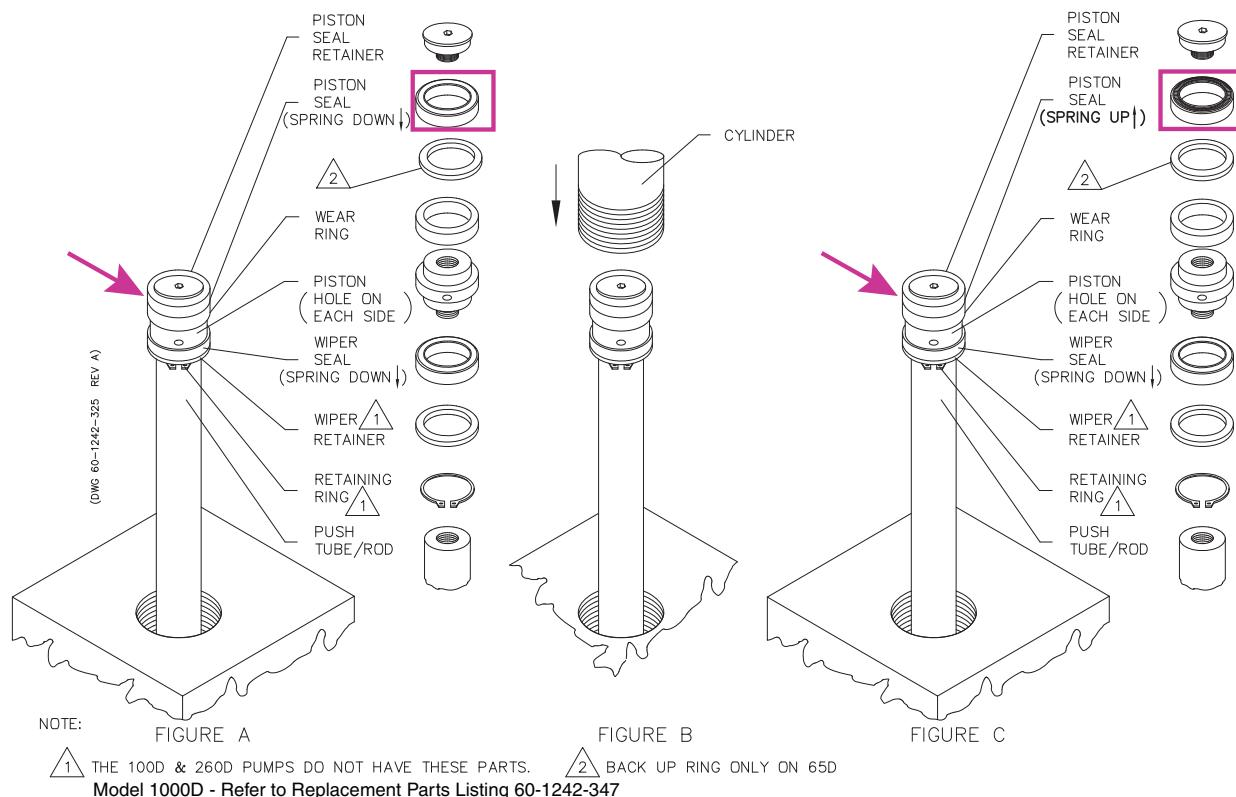

Figure 5-2 Break-in procedure for aqueous seals
1. Unscrew the piston seal retainer (Figure 5-2) from the piston and remove the seal from it. Notice that the spring imbedded in the seal is facing up or is on the top side of the seal.
2. Locate the piston (Figure 5-2).